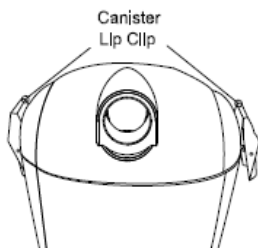

Fig. 1
1. To open the canister lid, pull up the canister lid tabs on each side of the unit and remove the canister lid. (Fig.1)